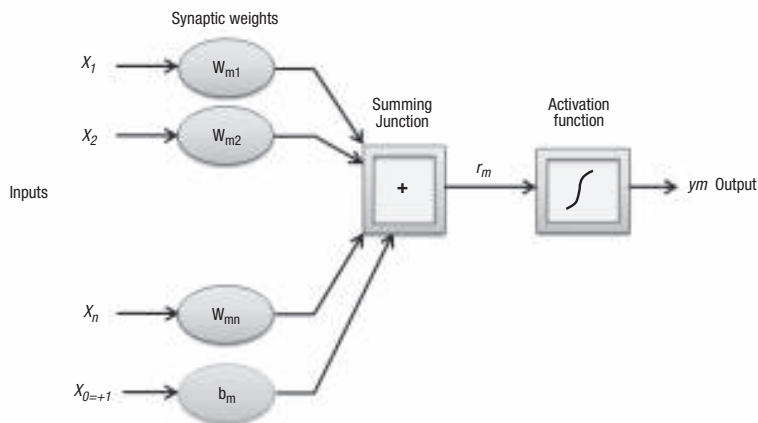

FIGURE 1. Shown here is a typical model of an artificial neuron [12]
The media shown in Figure 1, center, consisting of nanoAl that contains ultrafine (8- μm) PAC particles, has also been characterized for its ability to retain metal and particles. Its retention of colloidal and suspended solids, including bacteria and virus, were found to be equivalent to the non-PAC filter.
Overview of ANNs. Briefly, ANNs are constructed of simple processing elements, known as neurons, in a parallel computational algorithm. The neurons are inspired by biological nervous systems. Figure 1 shows an artificial neuron. The mathematical representation of a neuron, n , is given by Equations (7) and (8).